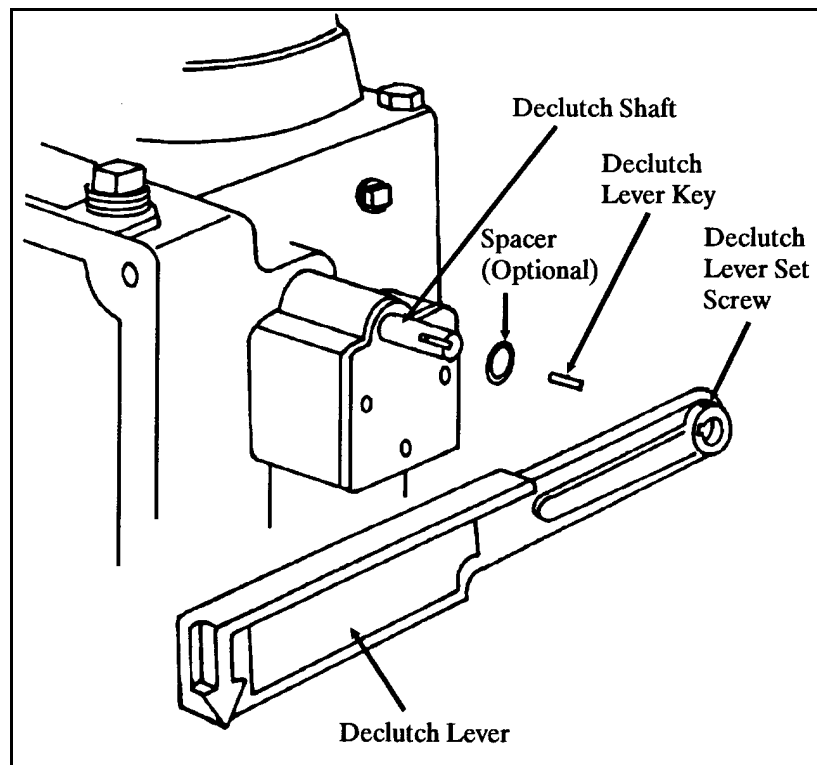

Figure 4-24 Declutch Lever Removal
8. Declutch Lever Removal Refer to Figure 4-24